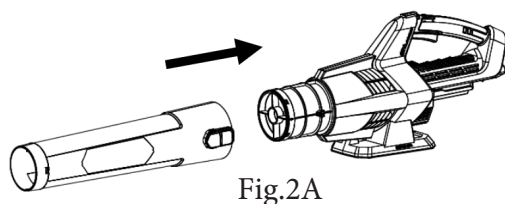

Fig.2A
- To attach your blower tube, align the groove in the tube with the knob on the housing. Push the tube onto the blower housing until the latch snaps into place. (Fig.2A)